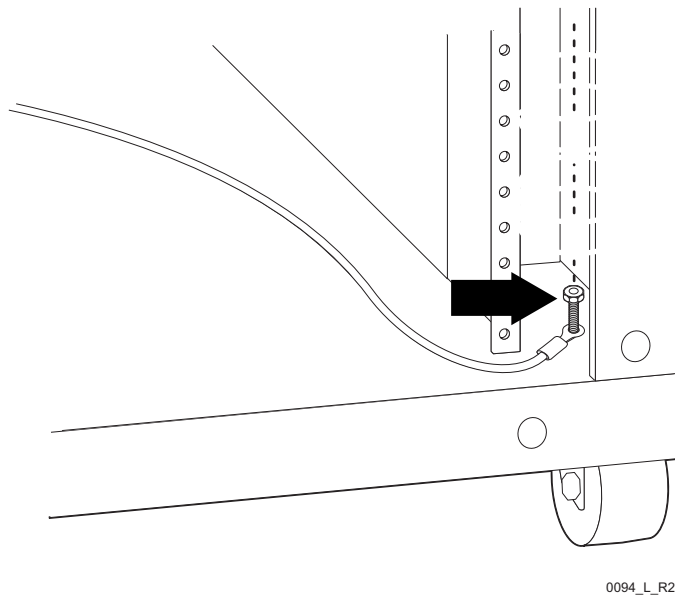

Figure 21-7. Disconnecting the Ground Wire from the Cabinet
- 5 Use a $\frac{3}{8}$ -inch (10-mm) wrench to disconnect the ground wire from the cabinet, as shown in Figure 21-7.